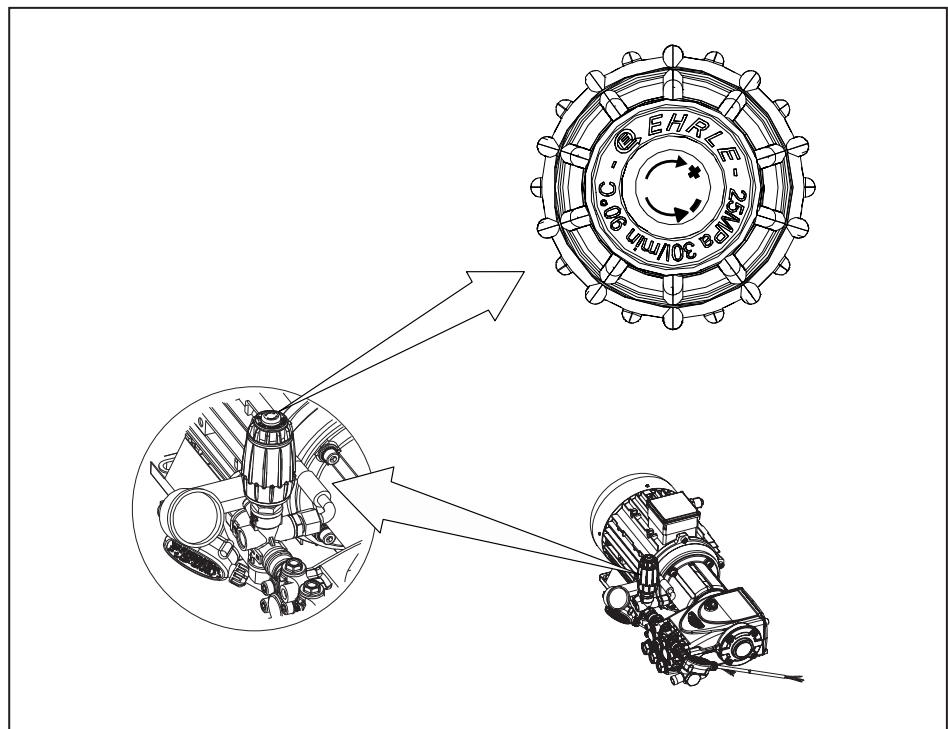

Fig. 6 - 6 Adjustment of the operating pressure at the unloader valve
- for Series HSC-Electric: set the main switch Start - Stop (1, Fig. 6 - 1) to position 1.
- for Series HSC-Electric FR: press the push-button Start - Stop (1, Fig. 6 - 1). The push-button light is on.
- ▶ Inside the cabinet, set the Thermostat (5, Fig. 6 - 4 for Series HSC-Electric, resp. 5, Fig. 6-5 for Series HSC-Electric FR) to the desired temperature.
- for Series HSC-Electric: set the main switch Hot Water (2, Fig. 6 - 1) to position 1.
- for Series HSC-Electric FR: press the push-button Hot Water (2, Fig. 6 - 1). The push-button light is on.
- ▶ The operating pressure can be read off the pressure gauge (2, Fig. 6 - 4 for Series HSC-Electric, resp. 2, Fig. 6 - 5 for Series HSC-Electric FR) while the trigger gun is activated.
By turning the unloader valve (see Fig. 6 - 6) clockwise, the operating pressure and water quantity on the high pressure pump will increase. Turning counterclockwise results in lower working pressure and reduced water quantity.
- for Series HSC-Electric see 4, Fig. 6 - 4